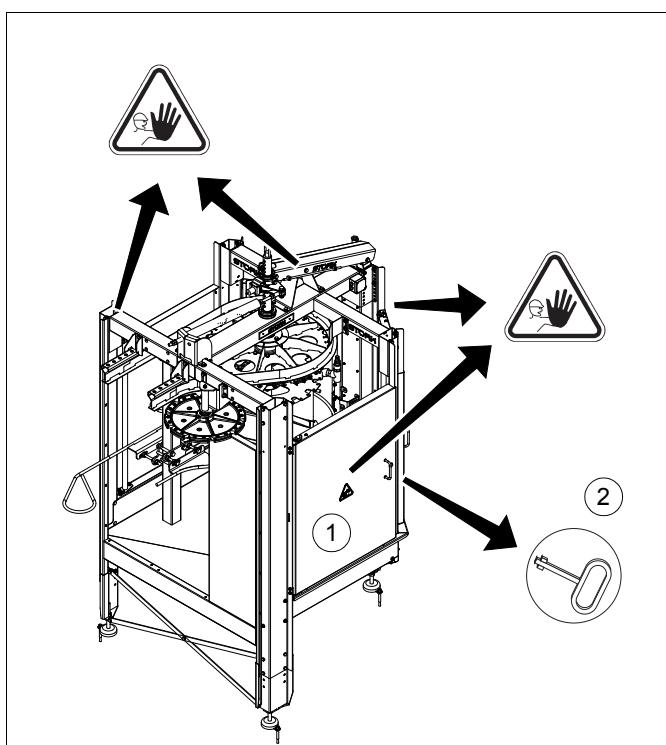

fig. 9 Safety provisions
- Doors 1 (4x) See fig. 9.
You will find safety labels on the machine as shown in fig. 9.